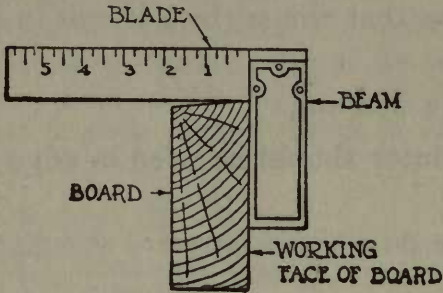

Fig. 24.
3. **Test the edge of the board with the try-square, holding the beam against the working face and the blade across the edge. (See Fig. 24.)**